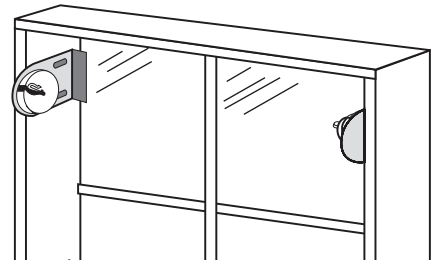

Fig. 1
a. Mark holes ½ in. less than overall (bracket to bracket) measurement at each end. (fig. 1)